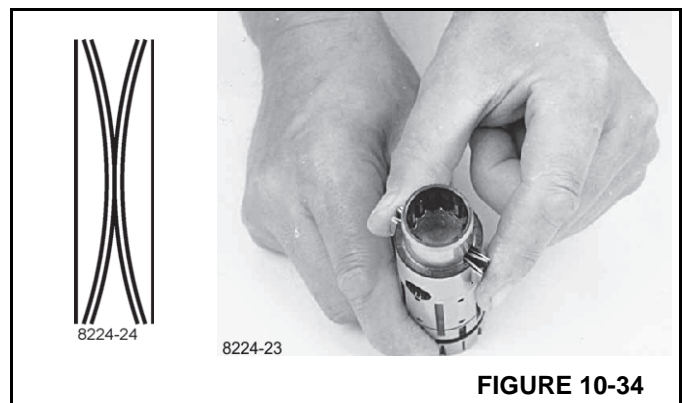

FIGURE 10-34
1. Place the two flat neutral position springs in the slot. Place the curved springs between the flat ones and press them into place. Center the springs in the spool (Figure 10-34).